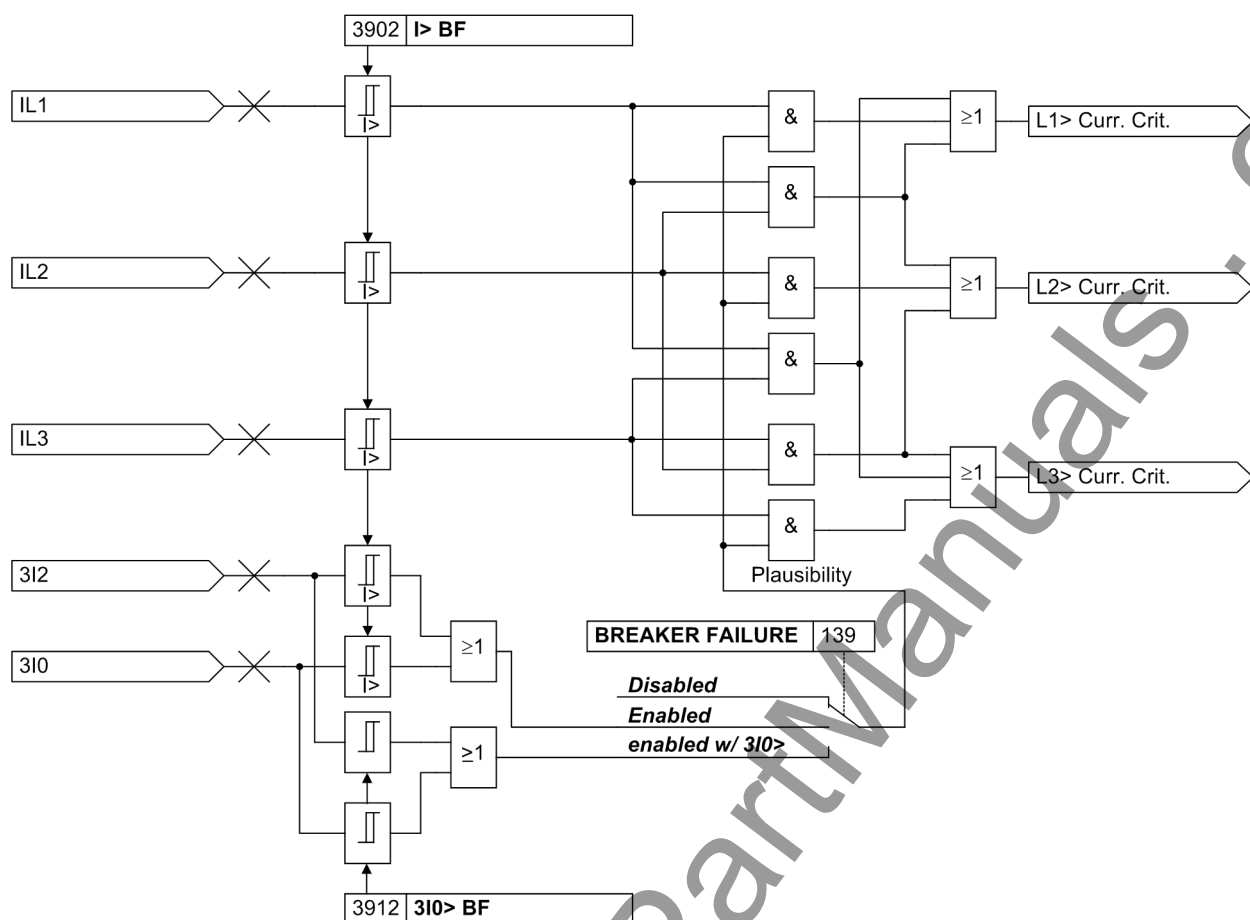
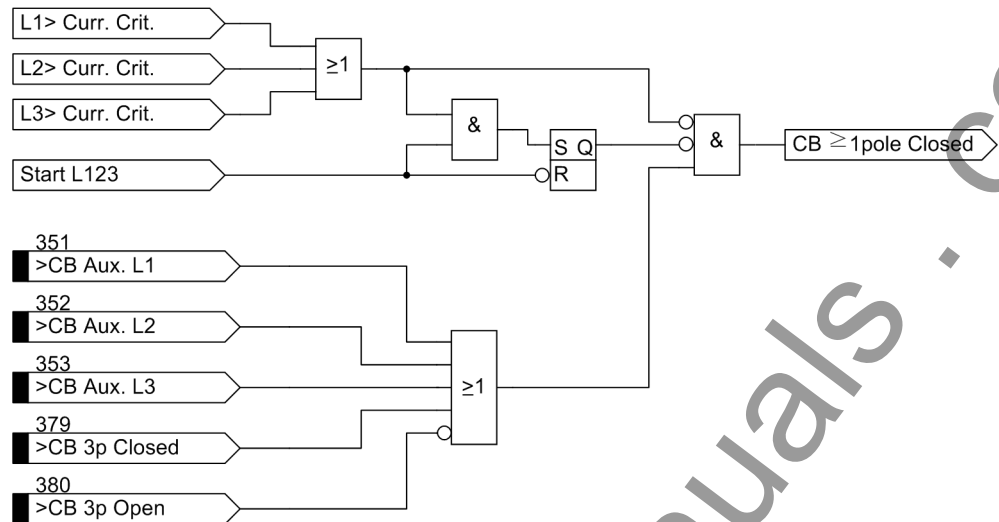
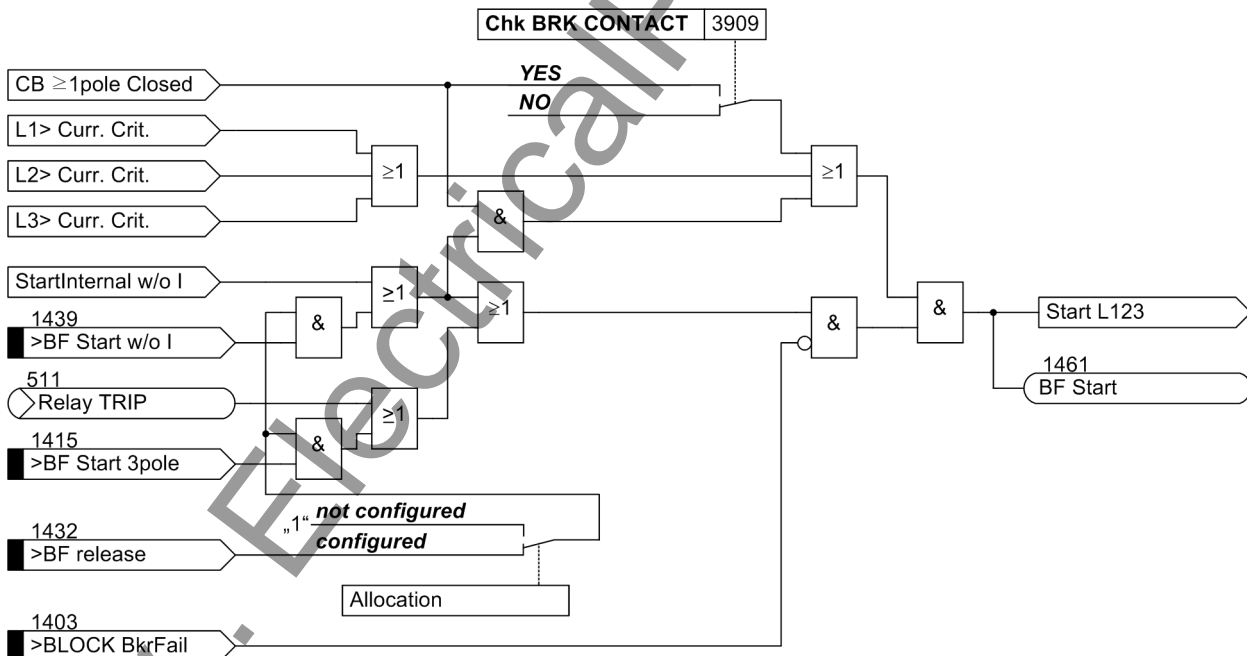
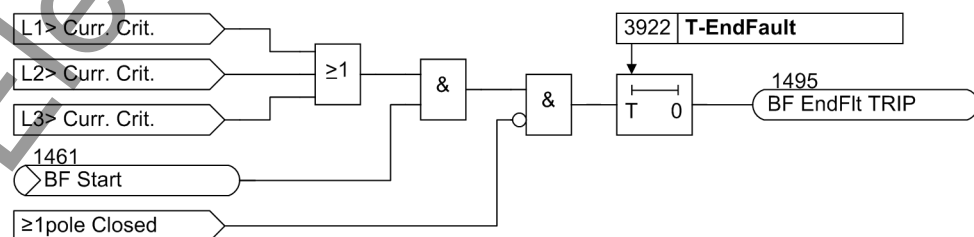

Figure 2-176 Current flow monitoring with plausibility currents $3\cdot I_0$ and $3\cdot I_2$
Figure 2-178 Creation of signal "CB ≥ any pole closed"
Figure 2-179 Breaker failure protection with common phase initiation
Figure 2-188 Operation scheme of end fault protection
The currents are monitored and compared with the set limit value. Besides the three phase currents, two further current thresholds are provided in order to allow a plausibility check. If configured correspondingly, a separate threshold value can be used for this plausibility check (see Figure 2-176).
It is possible to disable the auxiliary contact criterion. If you set the parameter switch **Chk BRK CONTACT** (Figure 2-179 top) to **NO**, the breaker failure protection can only be started when current flow is detected. The position of the auxiliary contacts is then not evaluated even if the auxiliary contacts are connected to the device.
On the other hand, current flow is not a reliable criterion for proper operation of the circuit breaker for faults which do not cause detectable current flow (e.g. Buchholz protection). Information regarding the position of the circuit breaker auxiliary contacts is required in these cases to check the correct response of the circuit breaker. For this purpose, the binary input „>BF Start w/o I“ No. 1439 is provided (Figure 2-179 left). This input initiates the breaker failure protection even if no current flow is detected.
Figure 2-179 shows the operating principle. When the trip signal appears from any internal or external feeder protection and at least one current flow criterion according to Figure 2-176 is present, the breaker failure protection is initiated and the corresponding delay time(s) is (are) started.
If the current criterion is not fulfilled for any of the phases, the position of the circuit breaker auxiliary contact can be queried as shown in Figure 2-178. If the circuit breaker poles have individual auxiliary contacts, the series connection of the three normally closed (NC) auxiliary contacts is used. After a three-pole trip command the circuit breaker has only operated correctly if current no longer flows over the poles or if all three NC auxiliary contacts are closed.
Figure 2-178 illustrates how the internal signal „CB pole ≥L1 closed“ is created (see Figure 2-179 left) if at least one circuit breaker pole is closed.
The end fault is recognized when the current continues flowing although the circuit breaker auxiliary contacts indicate that the breaker is open. An additional criterion is the presence of any breaker failure protection initiate signal. Figure 2-188 illustrates the functional principle. If the breaker failure protection is initiated and current flow is detected (current criteria „L*> current criterion“ according to Figure 2-176), but no circuit breaker pole is closed (auxiliary contact criterion „any pole closed“), then the timer **T-EndFault** is started. At the end of this time an intertrip signal is transmitted to the opposite end(s) of the protected object.
Additionally, the current criteria (from Figure 2-176) are processed. Pole discrepancy can only be detected when current is not flowing through all three poles, i.e. through only one or two poles. When current is flowing through all three poles, all three poles must be closed even if the breaker auxiliary contacts indicate a different status.